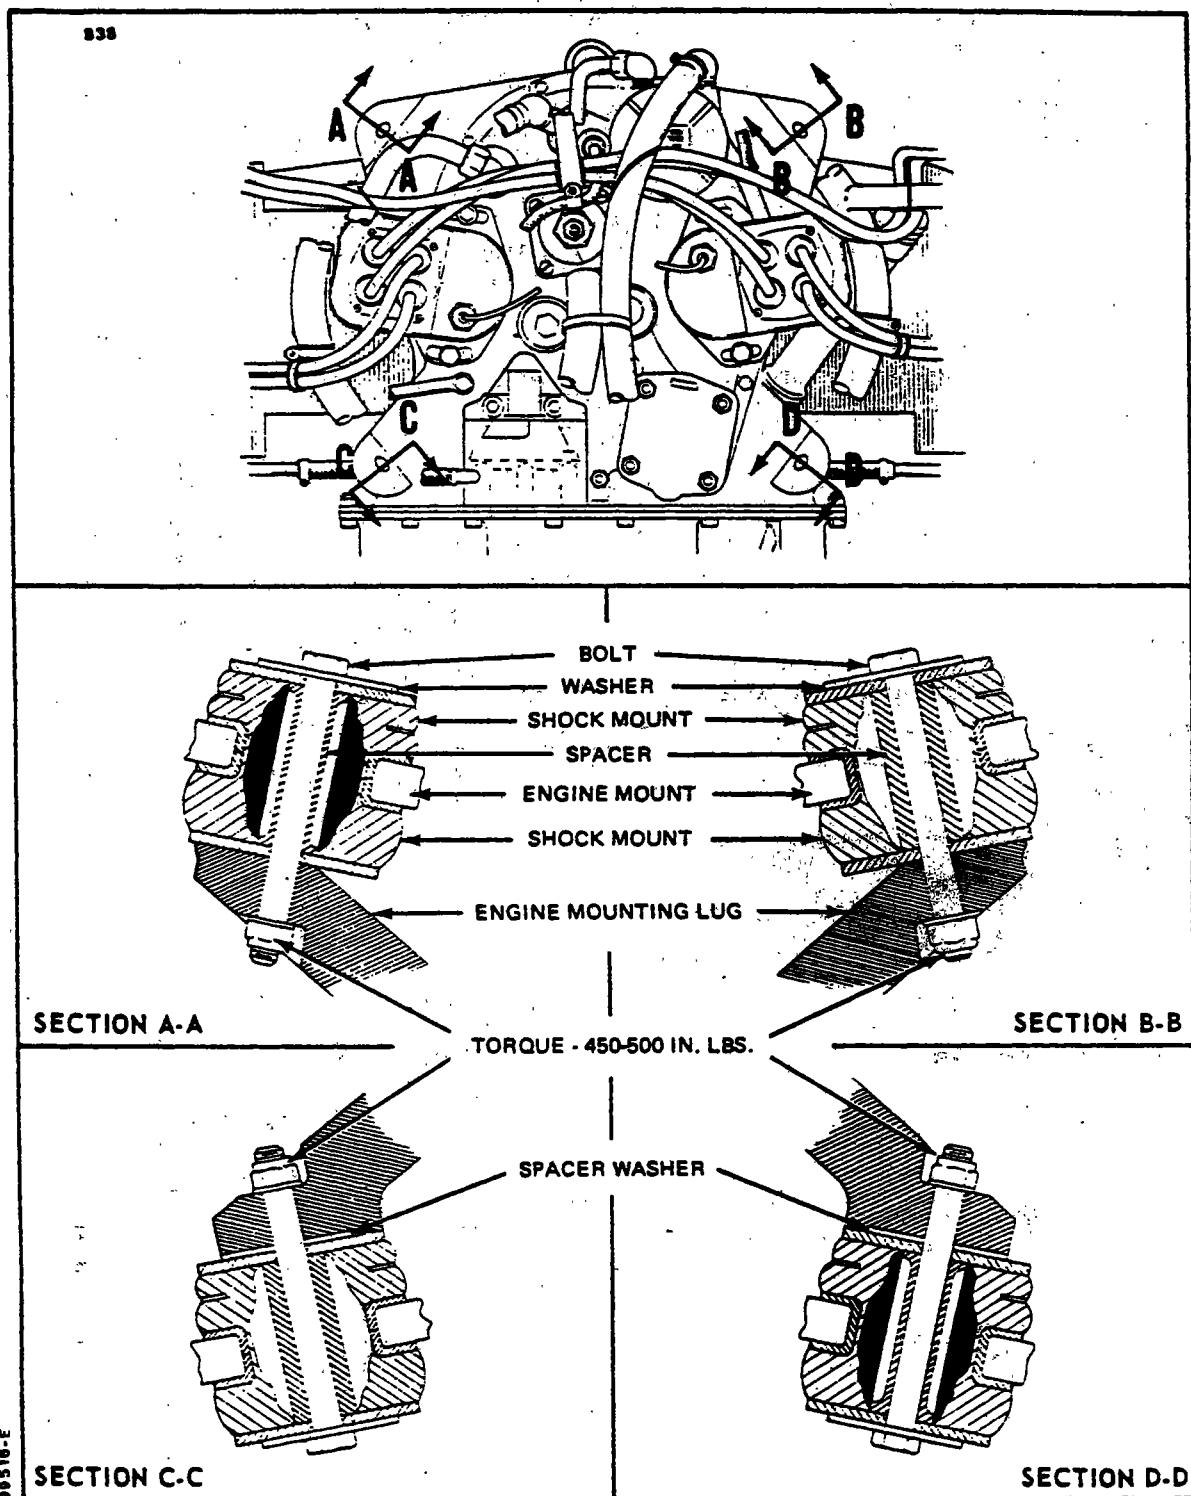

Figure 8-8. Engine Shock Mount Installation (PA-28-140, Serial Nos. 28-25000 and up)
On PA-28-140 aircraft with Serial Nos. 28-25000 and up, refer to paragraph 8-20 and Figure 8-8 for shock mount installation instructions. When using these instructions, steps c thru e, of paragraph 8-19 may be skipped.
8-20. INSTALLATION OF ENGINE SHOCK MOUNTS. (PA-28-140, Serial Nos. 28-2500 and up.) (Refer to Figure 8-8.)
- a. Assemble the engine shock mounts on the engine mount as shown in Figure 8-8. Note the position of each mount carefully. The upper right and lower left mounts are the same, as are the upper left and lower right.